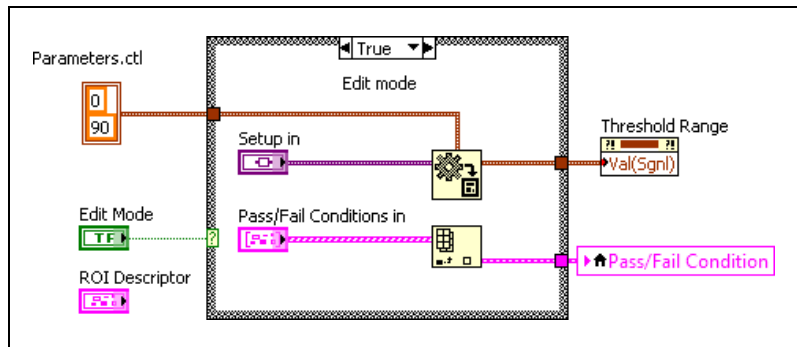

Figure 4-9. Initializing the Pass/Fail Controls with Existing Values
3. Complete the following steps to build the block diagram shown in Figure 4-9: